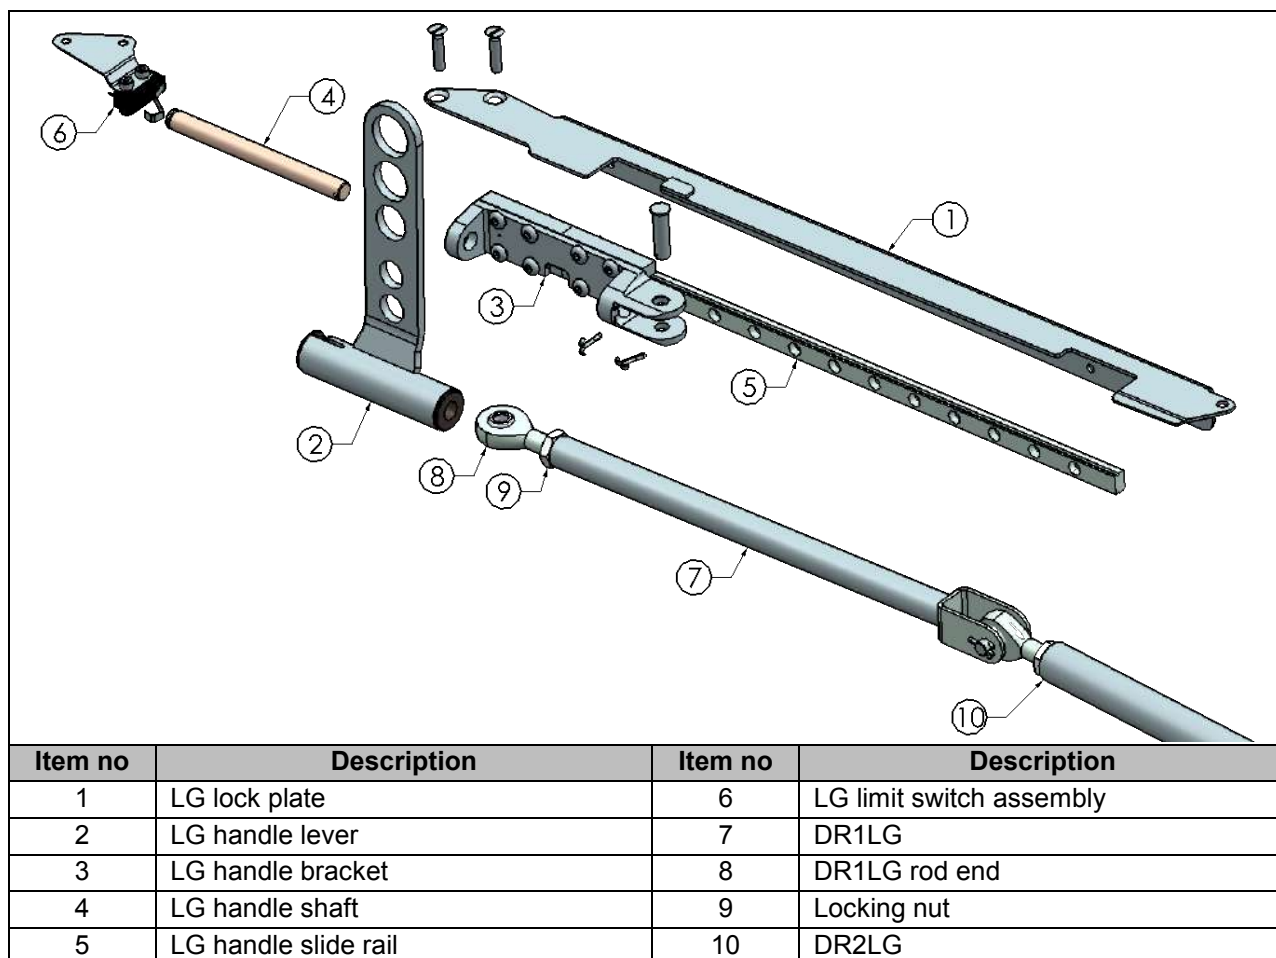
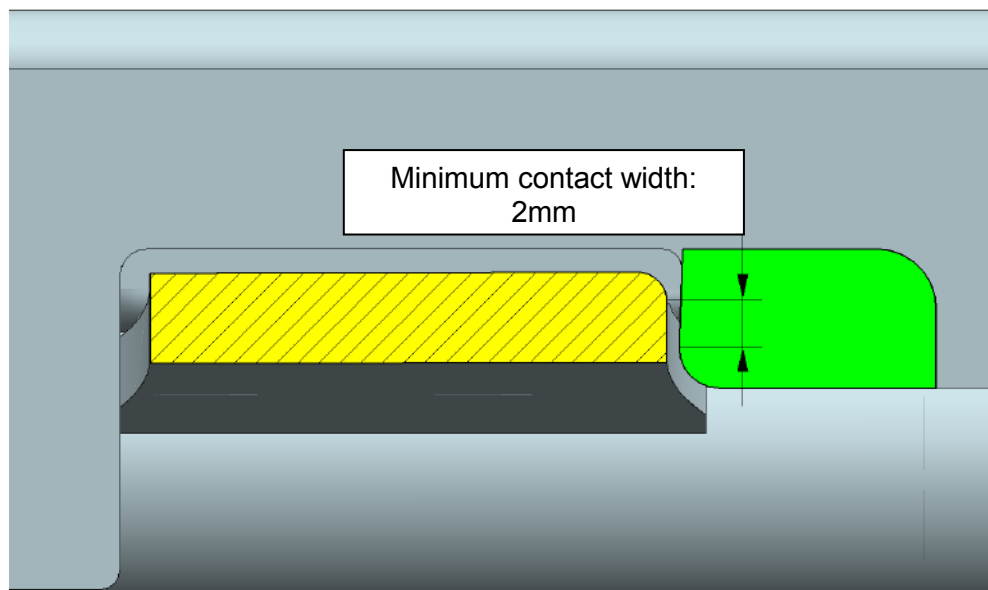

Figure 32-36: Landing gear retraction system
Figure 32-50: Minimum interface contact width
1. Inspect the contact faces on both the handle lever (Figure 32-36 Item 2) and the lock plate (Figure 32-36 Item 1).
3. Remove the screws securing the top of the lock plate (Figure 32-36 Item 1) to the side channel.
5. Move the handle (Figure 32-36 Item 2) towards the rear until the clevis pin can be removed upwards.
6. Move the handle to and fro to remove the hex recess screws securing the linear rail (Figure 32-36 Item 5) to the fuselage.
NOTE: Take note of the direction of the rail (Figure 32-36 Item 5) before removal.
CAUTION: Do not separate the linear rail (Figure 32-36 Item 5) and the handle assembly (Figure 32-36 Items 2 and 3), as this will cause the linear roller bearings to come apart. Reassembling the linear ball bearings is difficult, time-consuming and the bearing balls may introduce a flight risk to the aircraft.
NOTE: The limit switch (Figure 32-36 Item 6) at the front of the lock plate is mounted on a separate bracket, which is secured with the lock plate (Figure 32-36 Item 1) using the front screws. Be careful to not damage the wiring or the switch when removing the lock plate.
1. Remove the split pin from the shaft, at the connection end of the handle bracket (Figure 32-36 Item 3).
2. Pull the shaft (Figure 32-36 Item 4) out to separate the handle lever (Figure 32-36 Item 2) from the handle bracket (Figure 32-36 Item 3).
5. The landing gear handle (Figure 32-36 Item 2) engages in the fully forward position with the lock plate (Figure 32-36 Item 1). There must be at least 2 mm overlap between the flat faces of the lever and the lock plate.
NOTE: Figure 32-50 illustrates a virtual section through the landing gear handle lever (Figure 32-36 Item 2), shown in yellow, and the lock plate doubler (Figure 32-36 Item 1), shown in green.
6. The contact faces on both the handle lever (Figure 32-36 Item 2) and the lock plate (Figure 32-36 Item 1) must be perpendicular to the direction of the landing gear
7. The wear groove in the handle lever (Figure 32-36 Item 2) may develop during operation but may not exceed a depth of 1.5 mm.